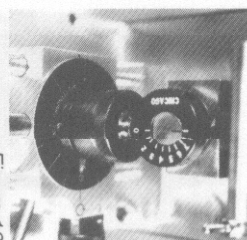

Figure 18
3. Move the slide block until the key is directly under the cam. Loosen the chuck closer. The key will pop upward and make contact with the cam. Tighten the chuck closer. The key is now set to the proper height for cutting. See Figure 18.